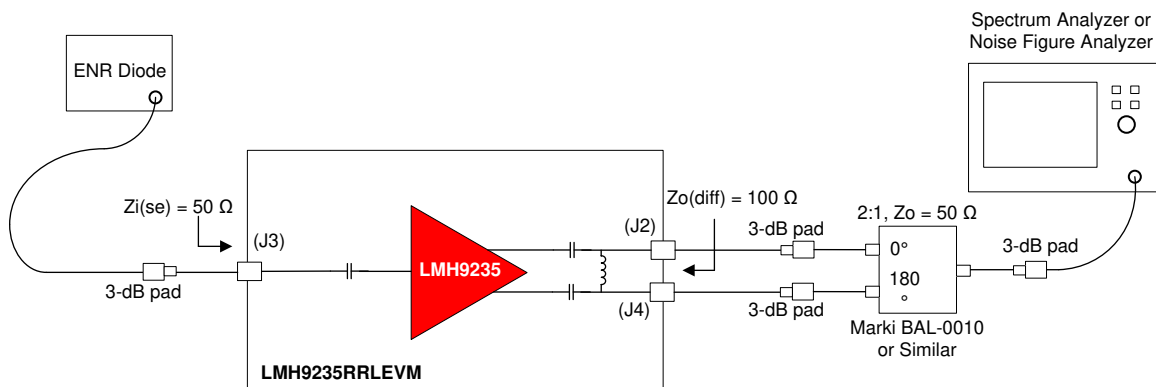

Figure 11. Noise Figure Test Setup
1. The traditional Y-factor method can be used for the NF measurement using a Noise Diode and a spectrum analyzer (or a Noise Figure Analyzer), as Figure 11 shows.